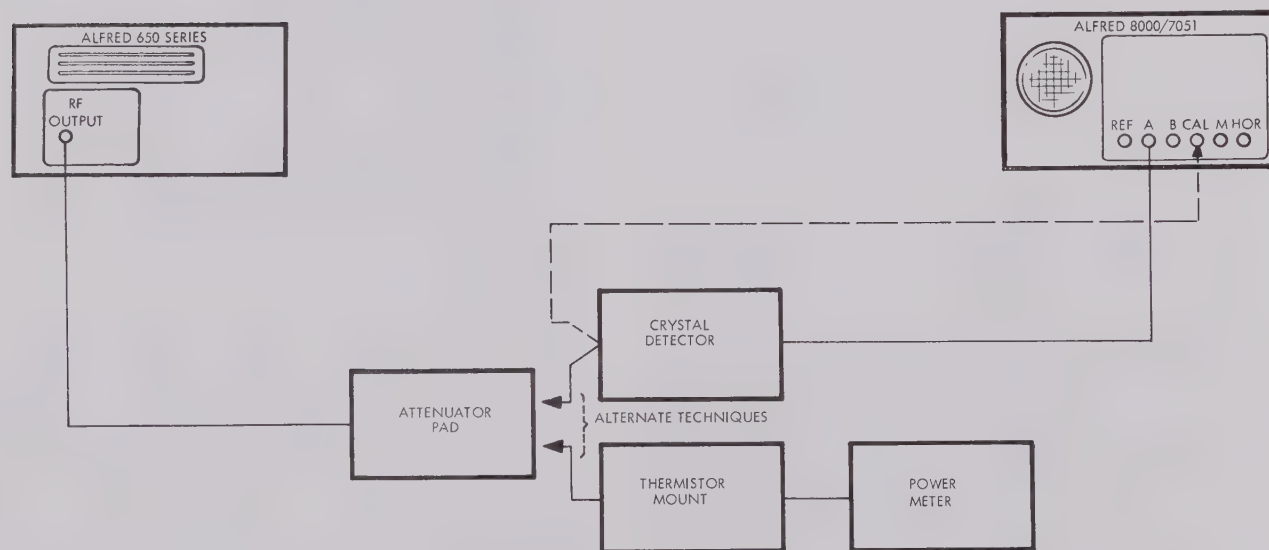

FIGURE 5-4. POWER CALIBRATION TEST SET-UP
5.3.5 POWER CALIBRATION ADJUSTMENT. (See Figure 5-4.)